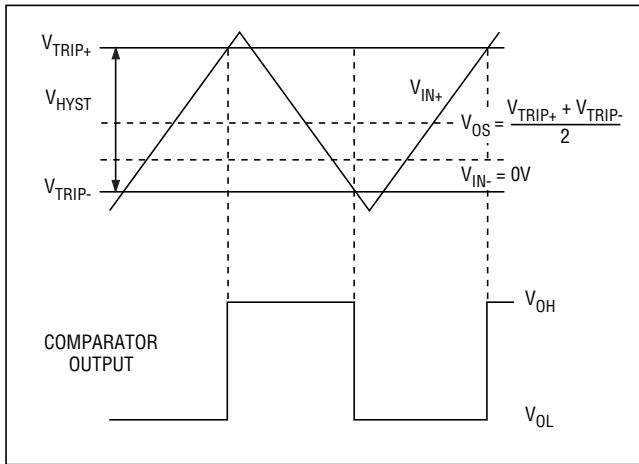

Figure 1. Input and Output Waveforms, Noninverting Input Varied
- Note 1:** Trip Point is defined as the input voltage required to make the comparator output change state. The difference between upper (V_{TRIP+}) and lower (V_{TRIP-}) trip points is equal to the width of the input-referred hysteresis zone (V_{HYST}). Specified for an input common-mode voltage (V_{CM}) of 0V (see Figure 1).
- Note 2:** Input Offset Voltage is defined as the center of the input-referred hysteresis zone. Specified for $V_{CM} = 0V$ (see Figure 1).
Adding hysteresis to a comparator creates two trip points: one for the input voltage rising and one for the input voltage falling (Figure 1). The difference between these two input-referred trip points is the hysteresis.
Figure 1 illustrates the case where IN- is fixed and IN+ is varied. If the inputs were reversed, the figure would look the same, except the output would be inverted.